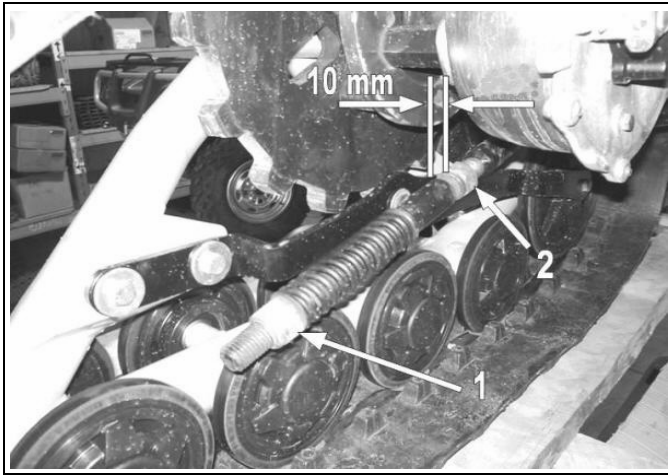

Figure 8
- Loosen the nut (1) compressing the spring of the stabilizing rod (see Figure 8).
- Set the nut (2) to obtain a distance of 10 mm as shown.
- Turn the nut (1) until it comes in contact with the spring, then compress the spring by turning this nut 1.5 turns.